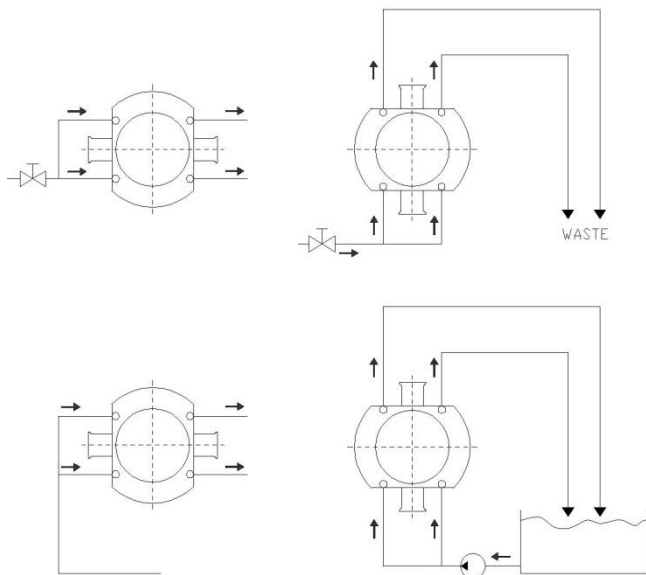

Figure 10 - Suggested low pressure flushing system
- Pipework should be as shown in the diagram (Figure 10).
- The system can be installed as in figure 10, but must be capable of withstanding the full pressure within the pumped fluid pipe system.